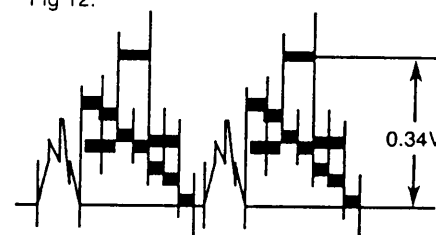

Fig 13.
- 3: (or pin 15 of IC351) of the Main Board. Adjust R258 (Y Level) to obtain 0.34V between 100% white signal and the pedestal level as shown below (fig. 13).